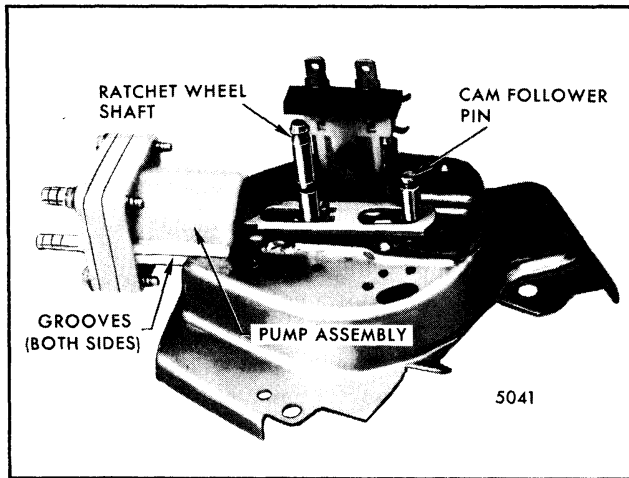

Fig. 2-86-Pump Assembly
7. Pull pump housing out until housing grooves clear the mounting surfaces; then lift the pump off the ratchet wheel shaft and cam follower pin (Fig. 2-86).